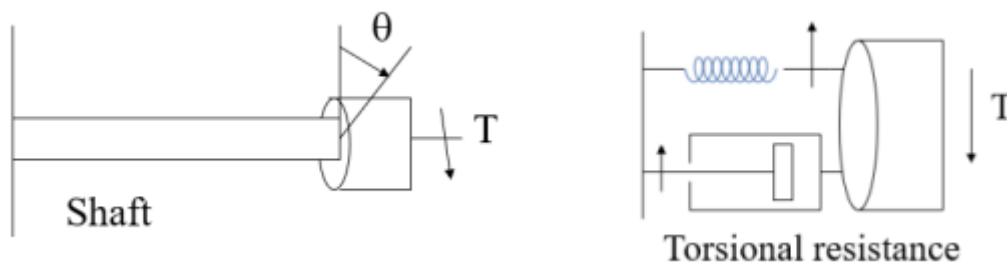

Figure 5 Schematic diagram of locked wheel
- a) Determine the governing equation that describes the correlation between the input torque T and the angular displacement θ of a driveline with a locked wheel, as shown in **Figure 5**.